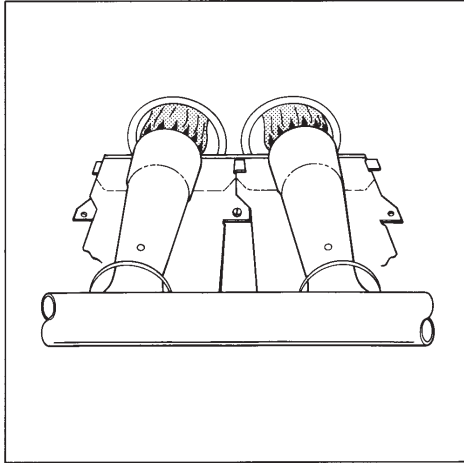

Fig. 18 - Burner Flame Adjustment
- Start your furnace and observe its operation. Watch the burner flames to see if they are clear blue, almost transparent. If you observe a suspected malfunction, or the burner flames are not clear blue, call your dealer. See Fig. 18.